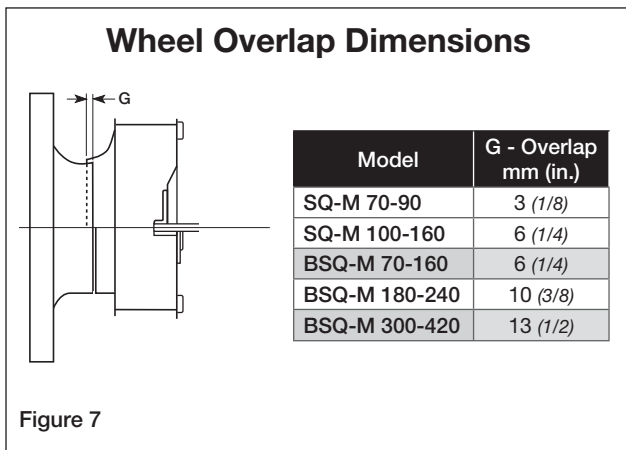

Figure 7
1. **Check all fasteners for tightness.** The wheel should rotate freely and be aligned as shown in Figure 7. Wheel position is preset and the unit is tested at the factory. Movement may occur during shipment, and realignment may be necessary. Centering can be accomplished by loosening the bolts holding the inlet (venturi) panel and repositioning. Wheel and inlet cone overlap can be adjusted by loosening the setscrews in the wheel and moving the wheel to the desired position.
Wheel improperly aligned and rubbing	Center wheel on inlet, see Figure 7.